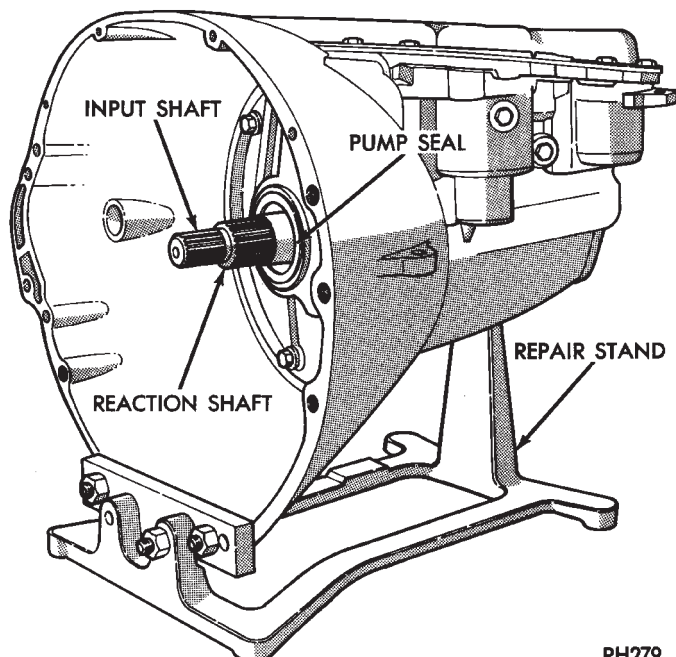

Fig. 98 Repair Stand
- (1) Drain fluid from transmission.
- (2) Clean exterior of transmission with suitable solvent or pressure washer.
- (3) Remove torque converter from front of transmission.
- (4) Remove throttle and shift levers from valve body manual shaft and throttle lever shaft.
- (5) Place transmission in vertical position.
- (6) Measure and record the input shaft end-play measurement.
- (7) Mount transmission in repair stand C-3750-B or similar type stand (Fig. 98).